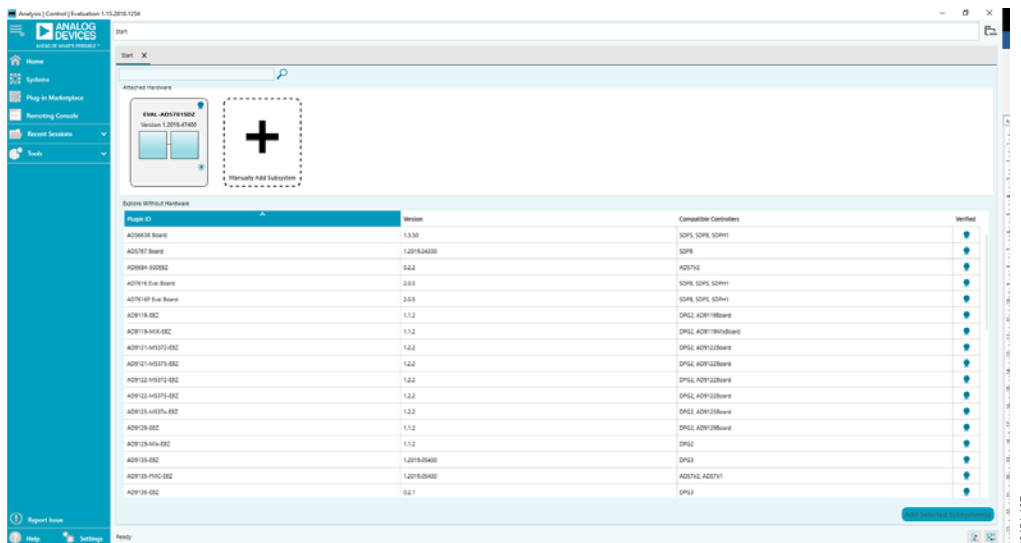
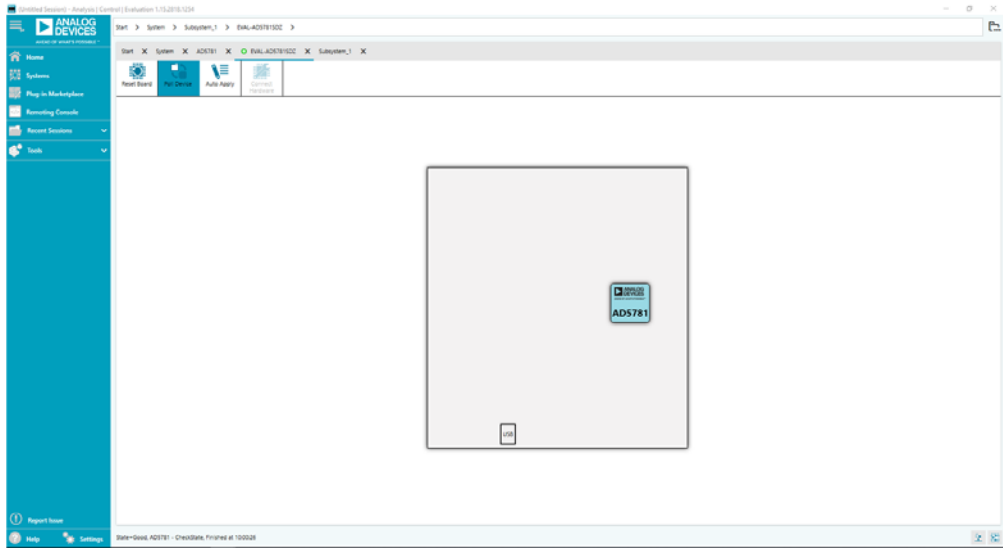
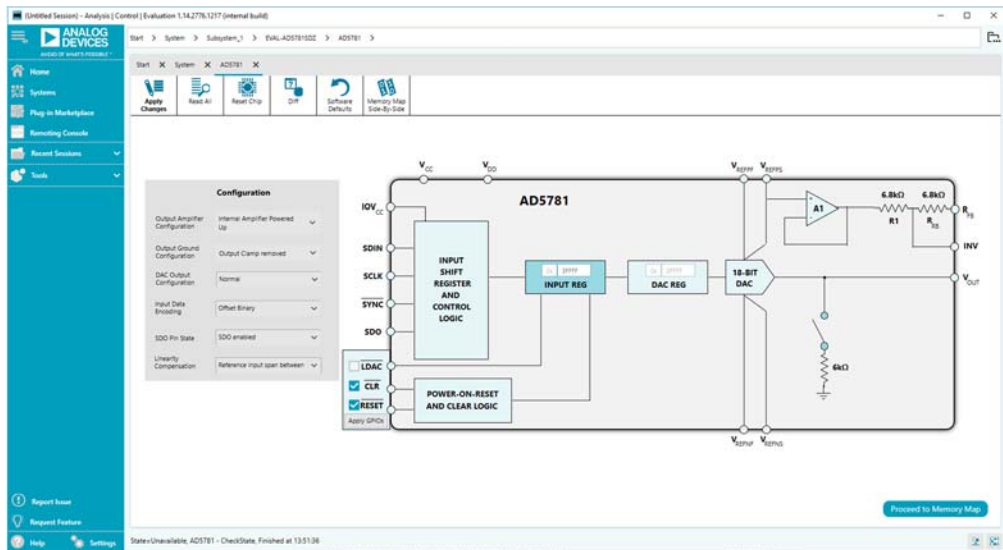

Figure 7. Start Tab for the EVAL-AD5781SDZ ACE Software
Figure 8. AD5781 Tab for the EVAL-AD5781SDZ ACE Software
Figure 9. AD5781 Chip Tab for the EVAL-AD5781SDZ ACE Software
1. From the **Start** menu, navigate to **All Programs > Analog Devices > ACE**. The software opens, displaying the **Start** tab, and recognizes the EVAL-AD5781SDZ (see Figure 7).
2. Double-click the EVAL-AD5781SDZ icon in the **Attached Hardware** pane to open the AD5781 chip tab (see Figure 7, Figure 8, and Figure 9).
3. Double-click the EVAL-AD5781SDZ icon under **Attached Hardware**, as shown in Figure 7, to open the **AD5781** tab (see Figure 9). This tab displays the block diagram and allows the configuration of the DAC input registers and control registers. The hardware registers and the fields in the **Configuration** pane shown in Figure 9 are not altered until the user clicks **Apply Changes**. The GPIO values are not altered until the user clicks **Apply GPIOs**.